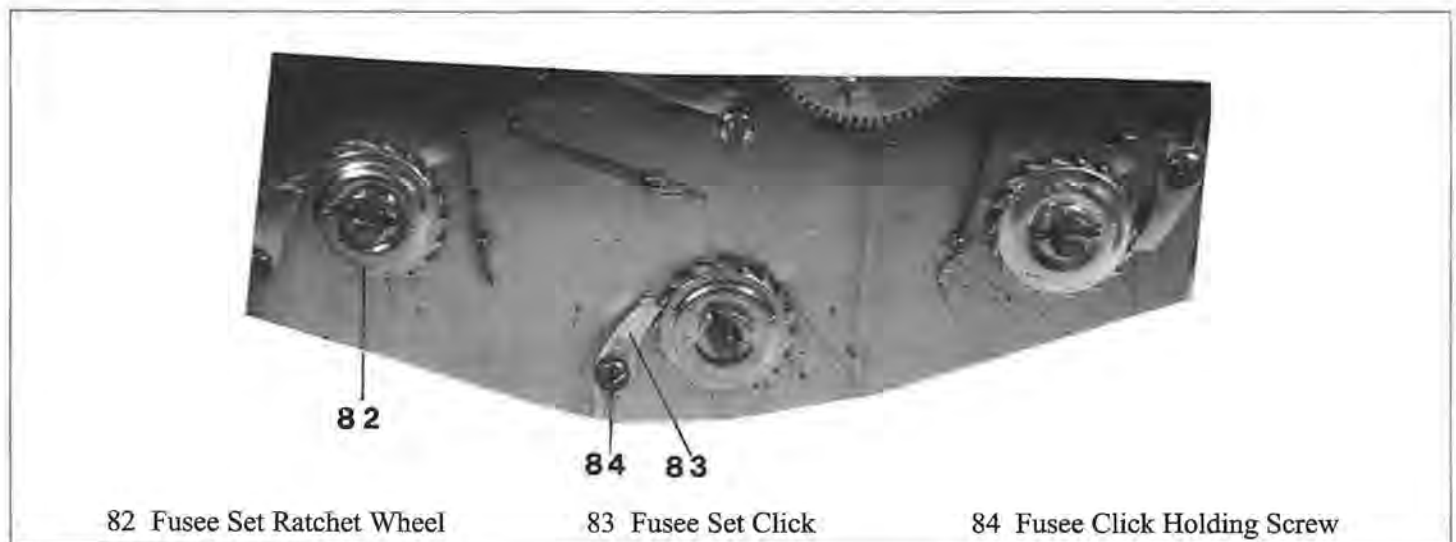

Figure 33.6. Fusee Set Let Down
21. Setting up the fusees (Figure 33.6).
21.5. Set up the fusee system (Figure 33.6).